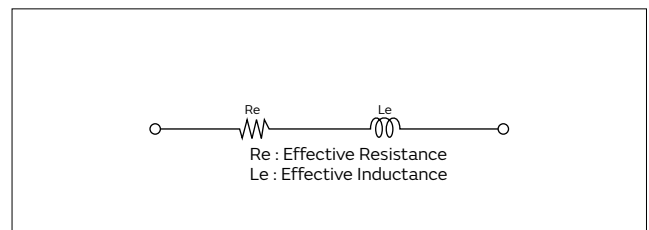

Fig. 2-4 Equivalent Circuit of CERALOCK in the Frequency Band $F_r \leq F \leq F_a$
Considering the limited frequency range of $F_r \leq F \leq F_a$, the impedance is given as $Z = R_e + j\omega L_e$ ($L_e \geq 0$) as shown in Fig. 2-4, and CERALOCK should work as an inductance L_e (H) having the loss R_e (Ω).